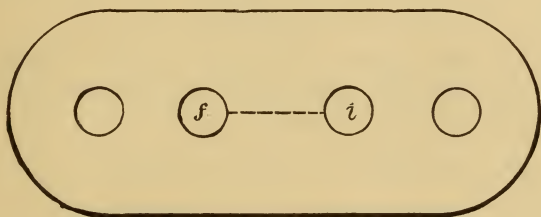

FIG. 29.
A. Aside from the causes already explained in connection with the brake valve proper, there might be a leak between ports *f* and *i* in the gasket (Fig. 29), between the feed valve and brake valve proper; dirt on the seat of the supply valve 55, or the regulating valve 59, or a poor seat on either; or the part of the regulating valve stem that rests upon diaphragm 57 being too long. Dirt on diaphragm 57, which would hold regulating valve 59 unseated, would produce the same result.